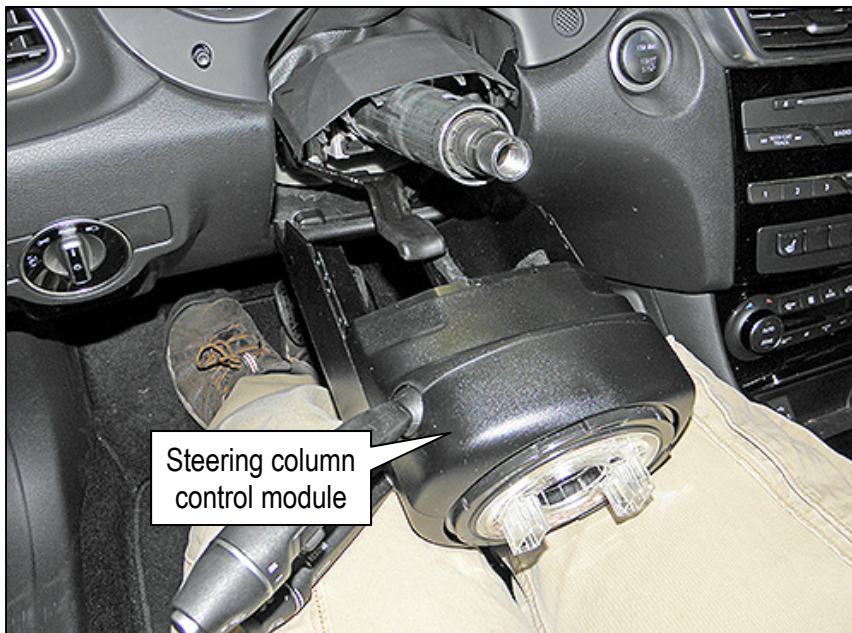

Figure 16
18. Support the steering column control module as shown in Figure 16; allow it to rest on technician's lap while next steps are performed.